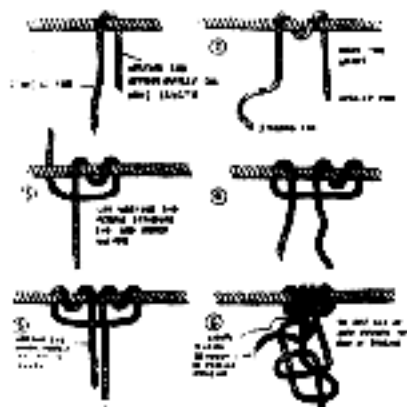

Figure 10-9. End of rope prusik.
(4) Prusik (end of rope) - Used to put a moveable knot on a fixed rope so that the knot will lock down or secure itself to the rope passing through the knot. Four wraps secured by locking bar. The knot is tight and dressed down with no ropes twisted or crossed. The knot is secured with a bowline 4-6 inches from the prusik (figure 10-9).